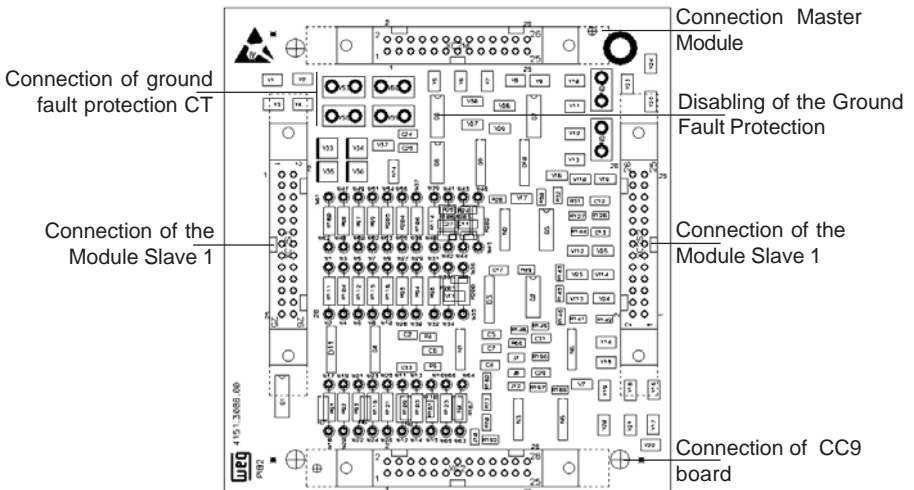

Figure 13 - Terminals on the PIB2 board
- ☑ For the other voltage series (500-600V e 660-690V), the CT terminals must be connected at W57 and W58 (Fig. 13). If required disable the ground fault protection. Connect at W59-W60.